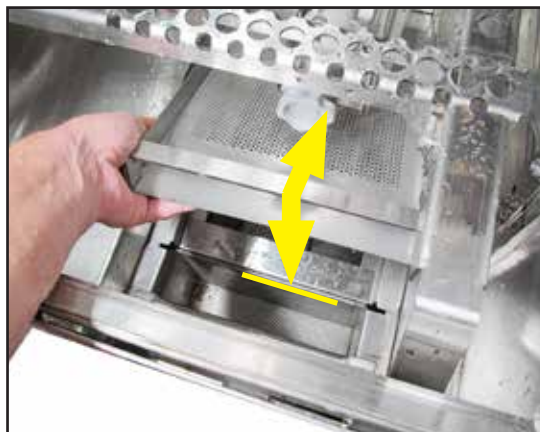

Fig. 84 -
- 1 Install scrap basket at the front of the tank, then slide scrap screen to the tank rear and lower down. Make sure edge of screen is positioned over lip of basket, Fig. 84.